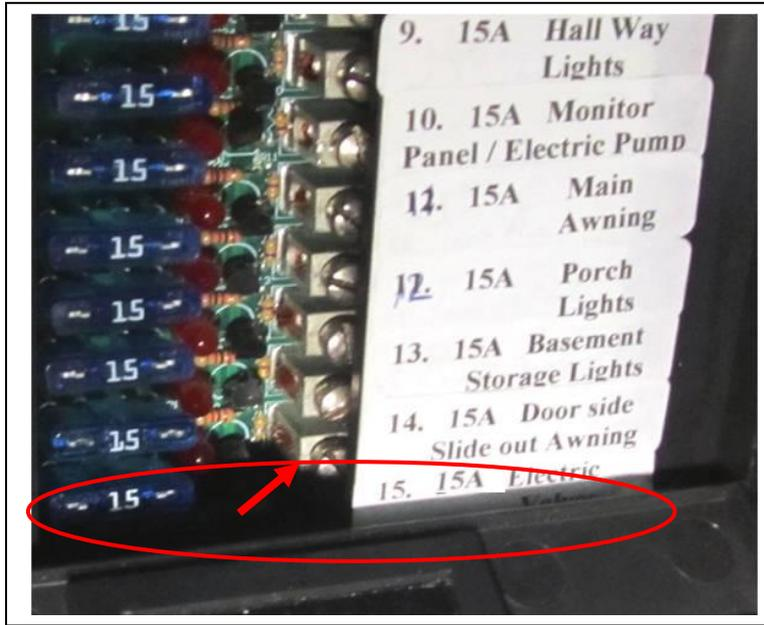
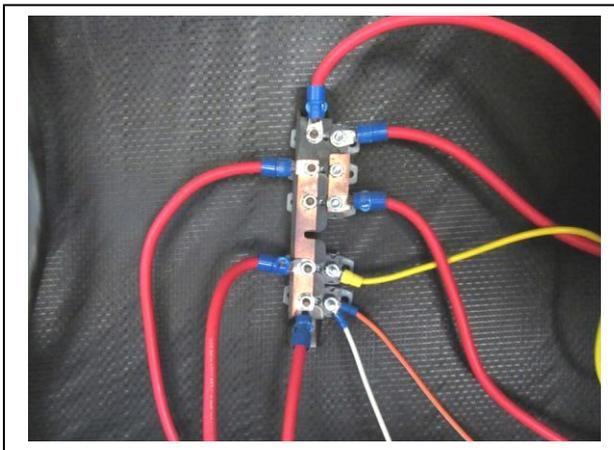
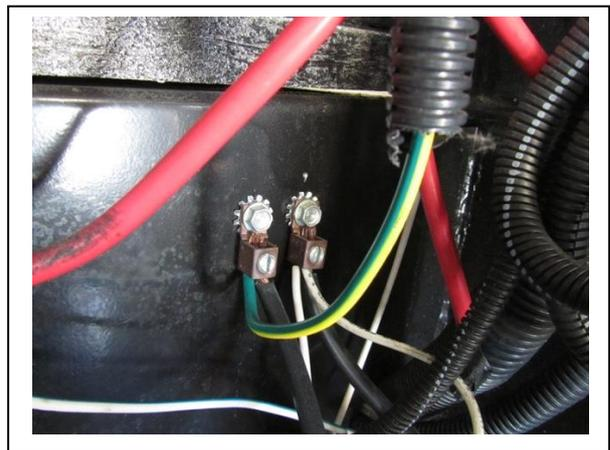

Fig. 14 – Arrow shows the spare (lowest) slot assigned to Electric valves
Fig.15. Tie to + 12V Bus Bar connected to battery +ve terminal
Fig. 16 Tie to Ground lug (-12V) connected to battery -ve terminal
- **12 V supply source:** **Fig. 14** Use a spare fused slot on the RV DC distribution panel if available to provide the +12 V supply line. Label the slot 'Electric Valves'. Ground (-ve12V) can be connected as shown below in **Fig. 16** or directly to the battery.
- If a spare slot is not available connect directly to 12 battery terminals. A distribution bus bar and grounding lugs with direct connections to the battery terminals are convenient to obtain the +12 V (**Fig. 15**) and Ground (-12V) (**Fig. 16**) connections.